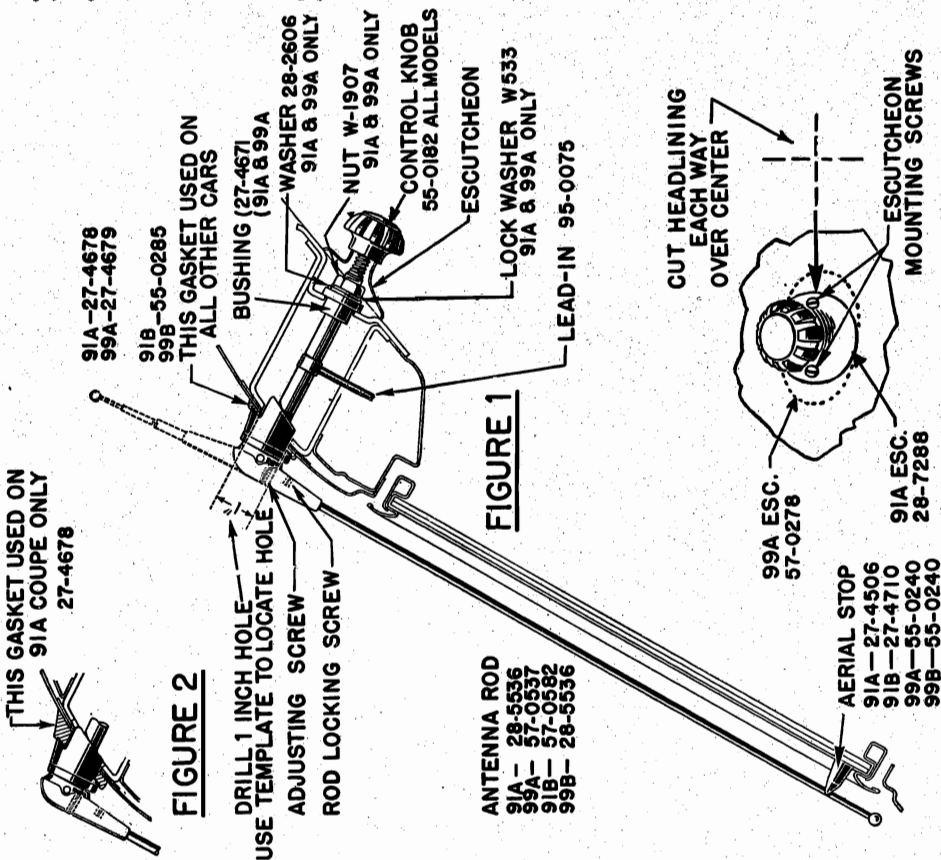

FIGURE 3
2—Press the Rotomatic button until the word "Dial" appears on the Rotomatic indicator. Tune in a weak station on the manual dial between 1300 and 1400 kilocycles. Adjust the antenna padder ② (Fig. 3) until maximum volume is obtained. NOTE: This adjustment must be made first before any Rotomatic adjustments are made; otherwise, mis-tuning will result.
3—Select five stations within the frequency range shown under each set of adjustment screws in Fig. 3.